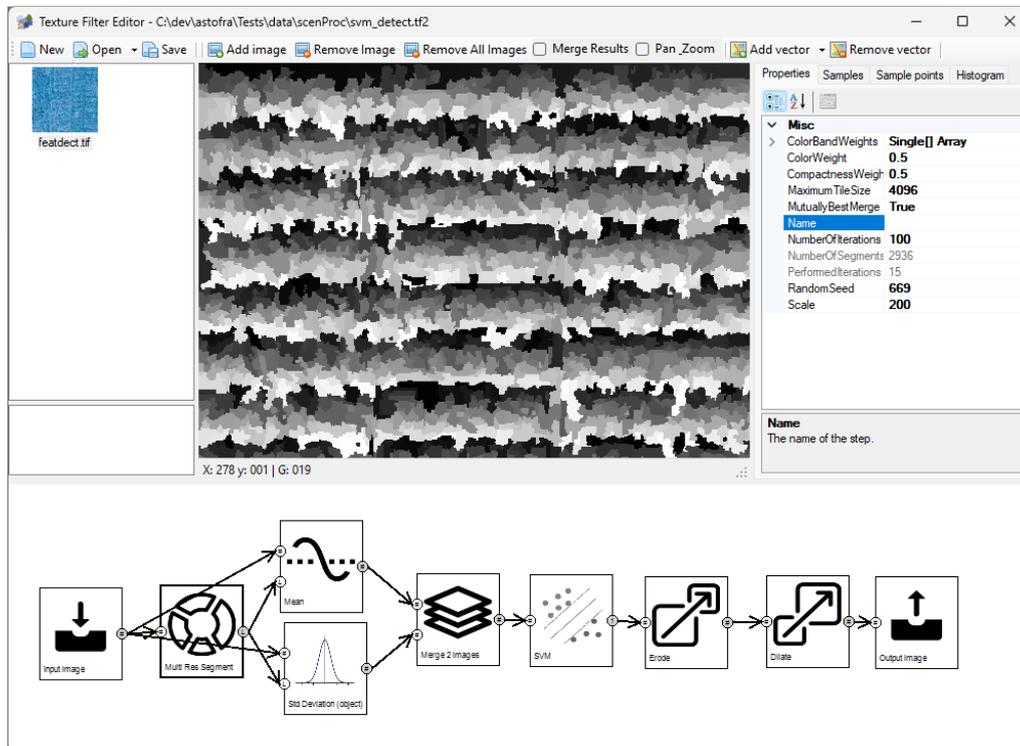

Figure 6.50: The multi resolution segmentation step that divides the images into segments
- The segmentation of the image into different objects, see Figure 6.50. The main parameters you want to vary are the Scale parameter and the weights. The aim is to get not too many objects, so you want the Scale not to be too small. But if the objects get too large they are less homogeneous and that affects the classification quality. So by trial and error you should find a good balance. Looking at the mean output (next step) is a good way to see if the objects are homogeneous or not.